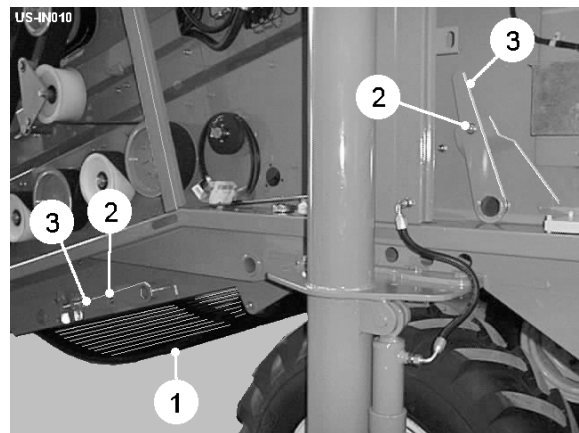

Fig 9
The underweb (item 1, fig 9) mounted below the stars transfers the stones and clod to the cross conveyor. A range of webs are available to suit varying conditions. Front and rear manual agitators are fitted which can be adjusted to increase / decrease the amount of web agitation. To adjust, remove the retaining bolts (item 2 fig 9) and pivot the agitator levers (item 3, fig 9) to the required position. Pivoting the agitator levers clockwise will decrease the amount of agitation.